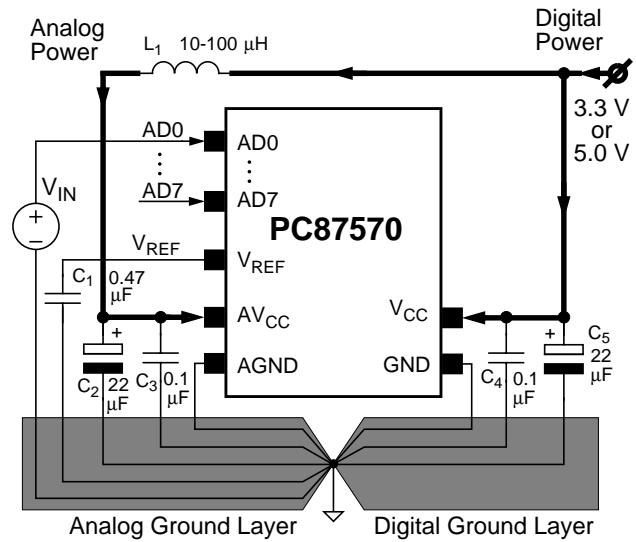

Figure 16-4. ADC Analog Power Supply Connection
The ADC and the other analog modules are supplied through two dedicated analog power pins: AVCC and AGND. This assures effective isolation of the analog modules from noise caused by the digital modules. To obtain the best performance, bear in mind the following recommendations (see also details in Figure 16-4):
**Power Connection.** The analog supply pin, AVCC, should be connected to a low noise power supply with the same voltage as the digital supply, either 3.3V or 5.0V. Both the digital and analog power supplies must be supplied simultaneously. To assure this, it is recommended to supply the AVCC pin from the digital VCC of the chip, using an external LC or RC filter. An example of an LC filter [L1 and (C2+C3)] is shown in Figure 16-4.